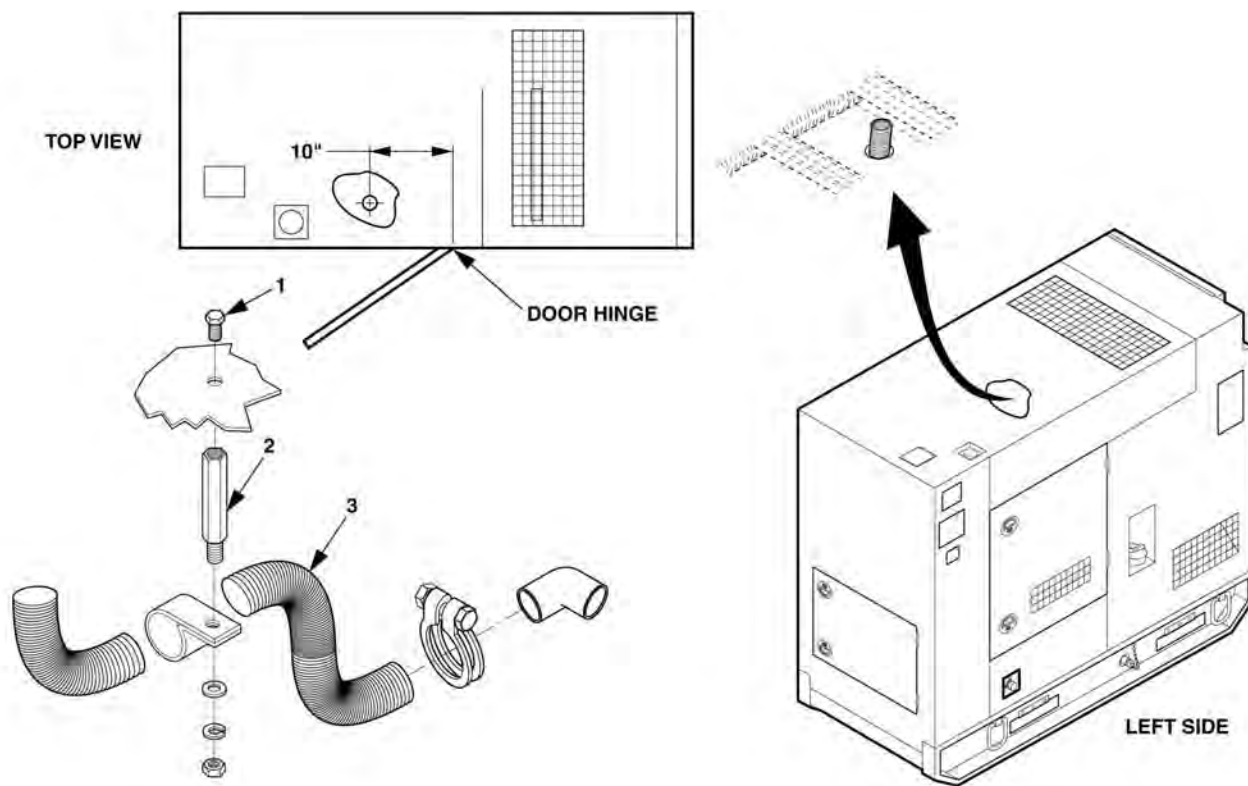

Figure 4-39. Exhaust Hose Removal
12. Remove exhaust hose (3), Figure 4-39 and hardware; be sure to replace screw (1) in existing screw hole after removing stud (2).